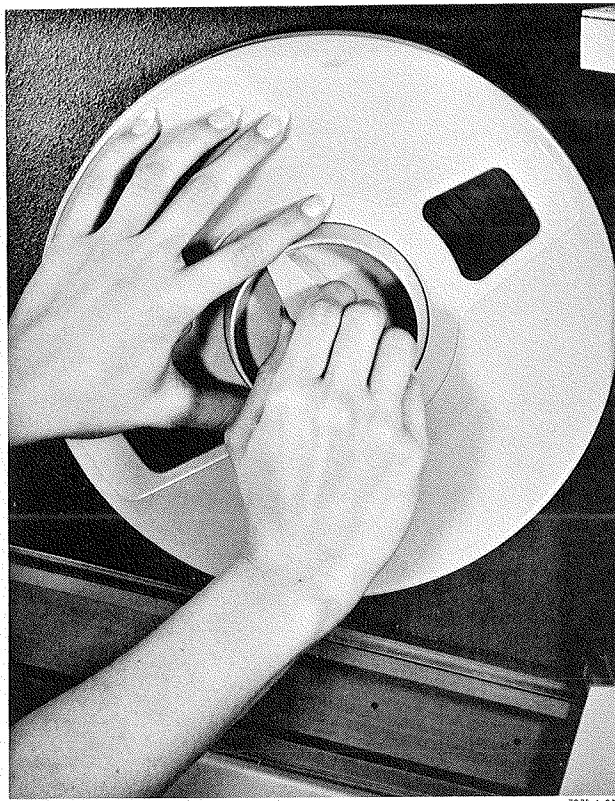

Figure 3-4. Installing the File Reel
e. Holding reel firmly against turntable with one hand, turn holddown knob clockwise to tighten. (See figure 3-4.) Tighten holddown knob until it is snug or until it reaches the end-of-travel stop (approximately 3/4 turn).